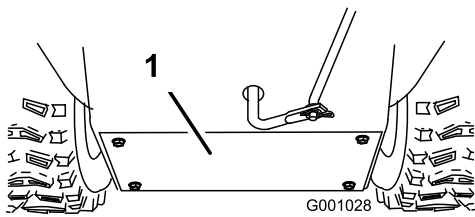

**Figure 41**
Lightly lubricate the hex shaft yearly with automotive engine oil (Figure 41).
**Important:** Do not get oil on the rubber wheel or the aluminum friction drive plate because the traction drive will slip (Figure 41).